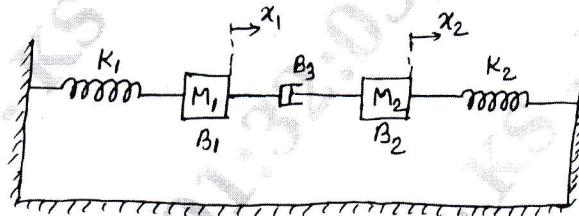

Fig.Q3(a)
- 3 a. Write the equilibrium equations for the mechanical system shown in Fig.Q3(a), hence obtain the F – I system. (10 Marks)